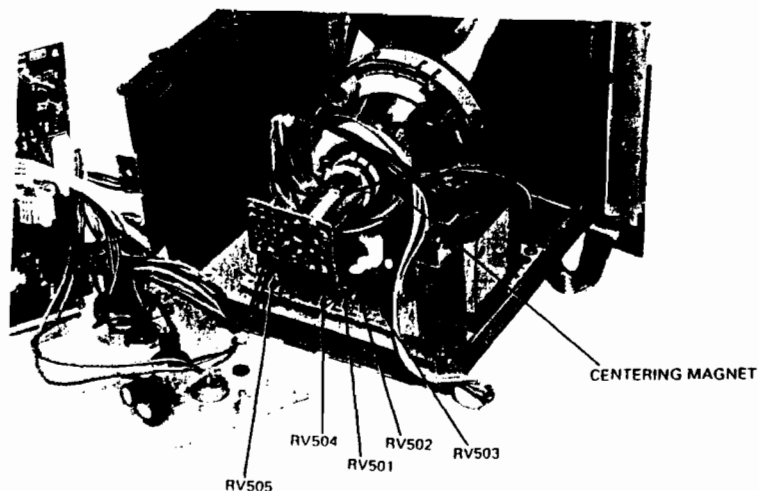

FIG. 5-1 CRT MONITOR ADJUSTMENT
- 1) Intensity adjustment (See Fig. 5-1)
- 2) Focus adjustment (See Fig. 5-1)
6) Beam Centering adjustment on CRT (See Fig. 5-1)